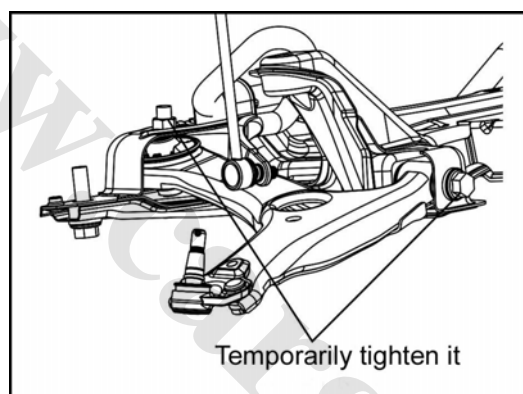

Fig. 2-17
1) Temporarily screw down the front suspension lower arm assembly. Fasten the front suspension lower arm assembly by 2 bolts and nuts. No need to use torque tools, as shown in Fig. 2-17.
4) Fully tighten the front suspension lower arm assembly. Secure the lower arm by 2 bolts as shown in Fig. 2-17.